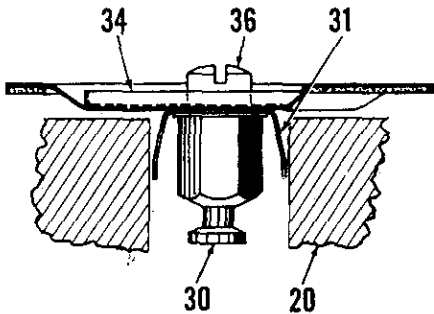

Fig. 111—When installing primary diaphragm assembly into converter body, legs of damper spring (31) must touch against sides of cavity in body (20).
Place the primary diaphragm assembly over opening in converter body making sure the damper spring legs contact the flat sides as shown in Fig. 111, then install four alignment pins (Borg Warner part No. M-501) through holes in diaphragm. Place spring (37—Fig. 110) on diaphragm plate, then install cover (38) over the springs and alignment pins. Hold the cover down securely, remove an alignment pin and install a retaining screw until all four screws are installed and securely tightened, then release pressure from cover.